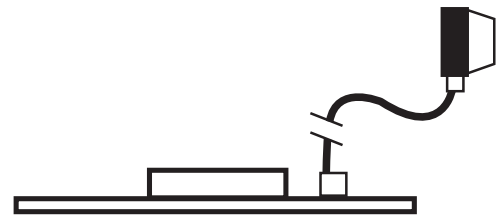

FIG. 1b
*When installed vertically, the sensor should be installed halfway between the container's inlet and the edge of the lid. (Minimum 3 inches from both) [FIG 1b].*